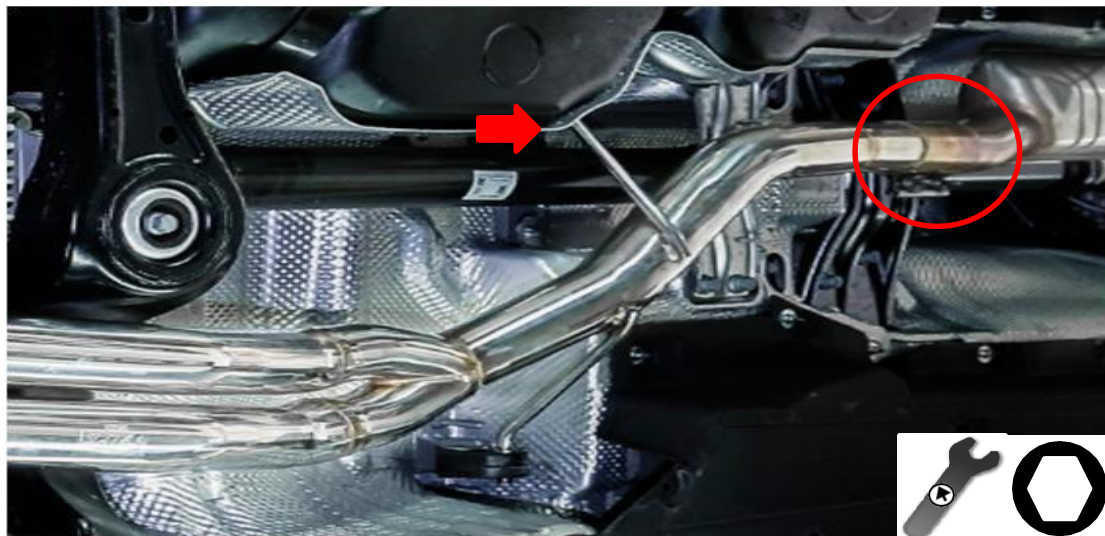

Figure 2-3
3. Reattach the original factory mid pipe and secure with support bar (Figure 2-3). The center of the support bar must be vertical.